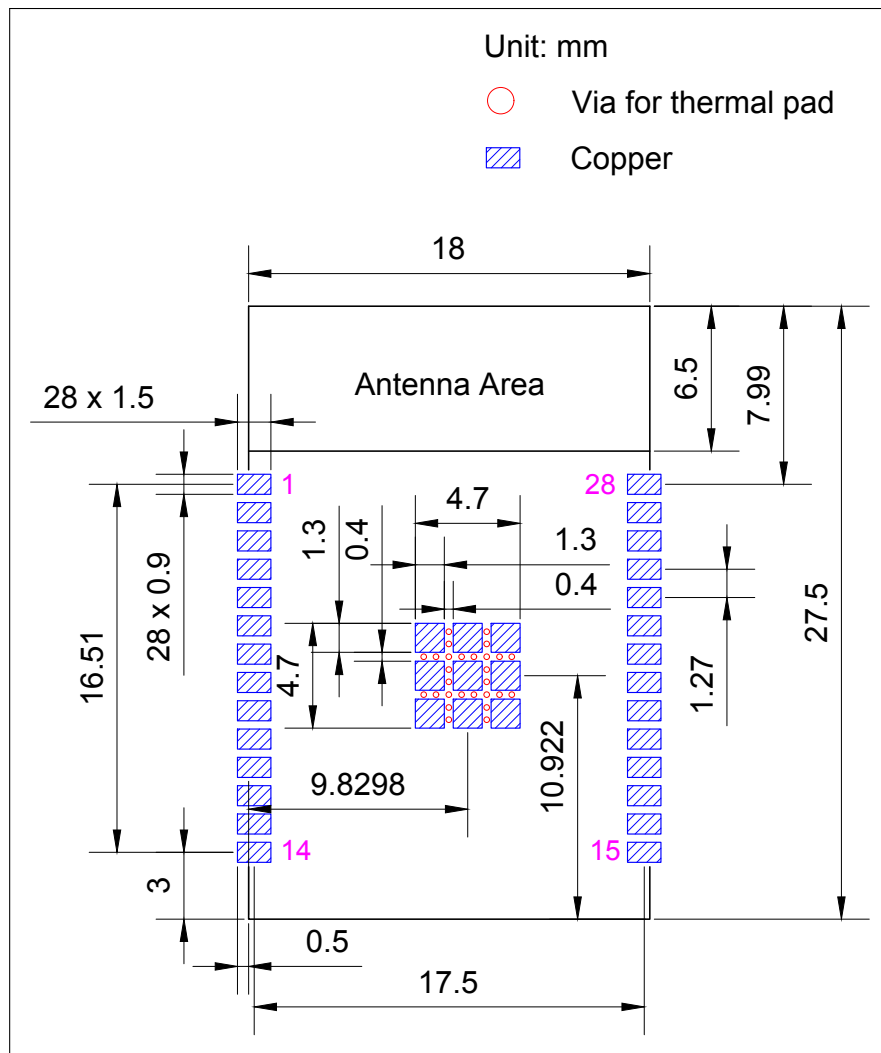
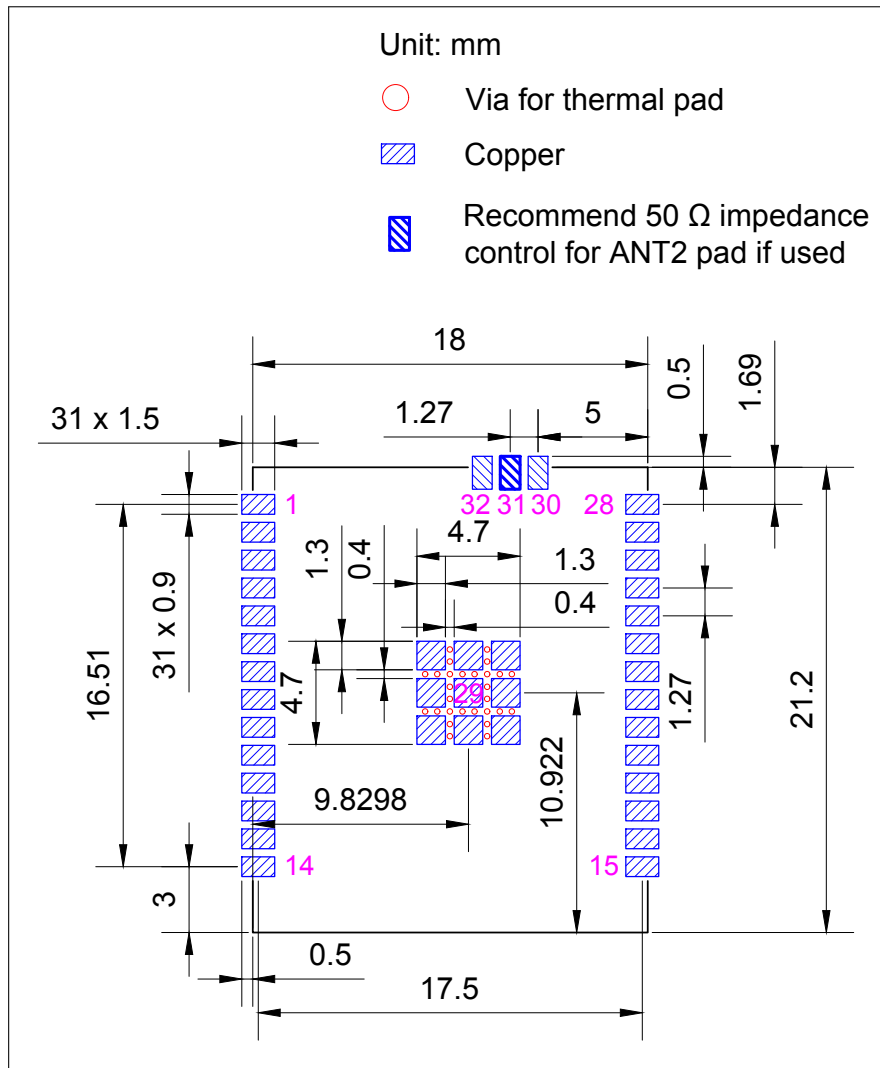

Figure 11-1. ESP32-C5-WROOM-1 PCB Land Pattern
Figure 11-2. ESP32-C5-WROOM-1U PCB Land Pattern
- Figures for recommended PCB land patterns with all the dimensions needed for PCB design. See Figure 11-1 ESP32-C5-WROOM-1 PCB Land Pattern and Figure 11-2 ESP32-C5-WROOM-1U PCB Land Pattern.
- Source files of recommended PCB land patterns to measure dimensions not covered in Figure 11-1. You can view the source files for ESP32-C5-WROOM-1 and ESP32-C5-WROOM-1U with Autodesk Viewer.